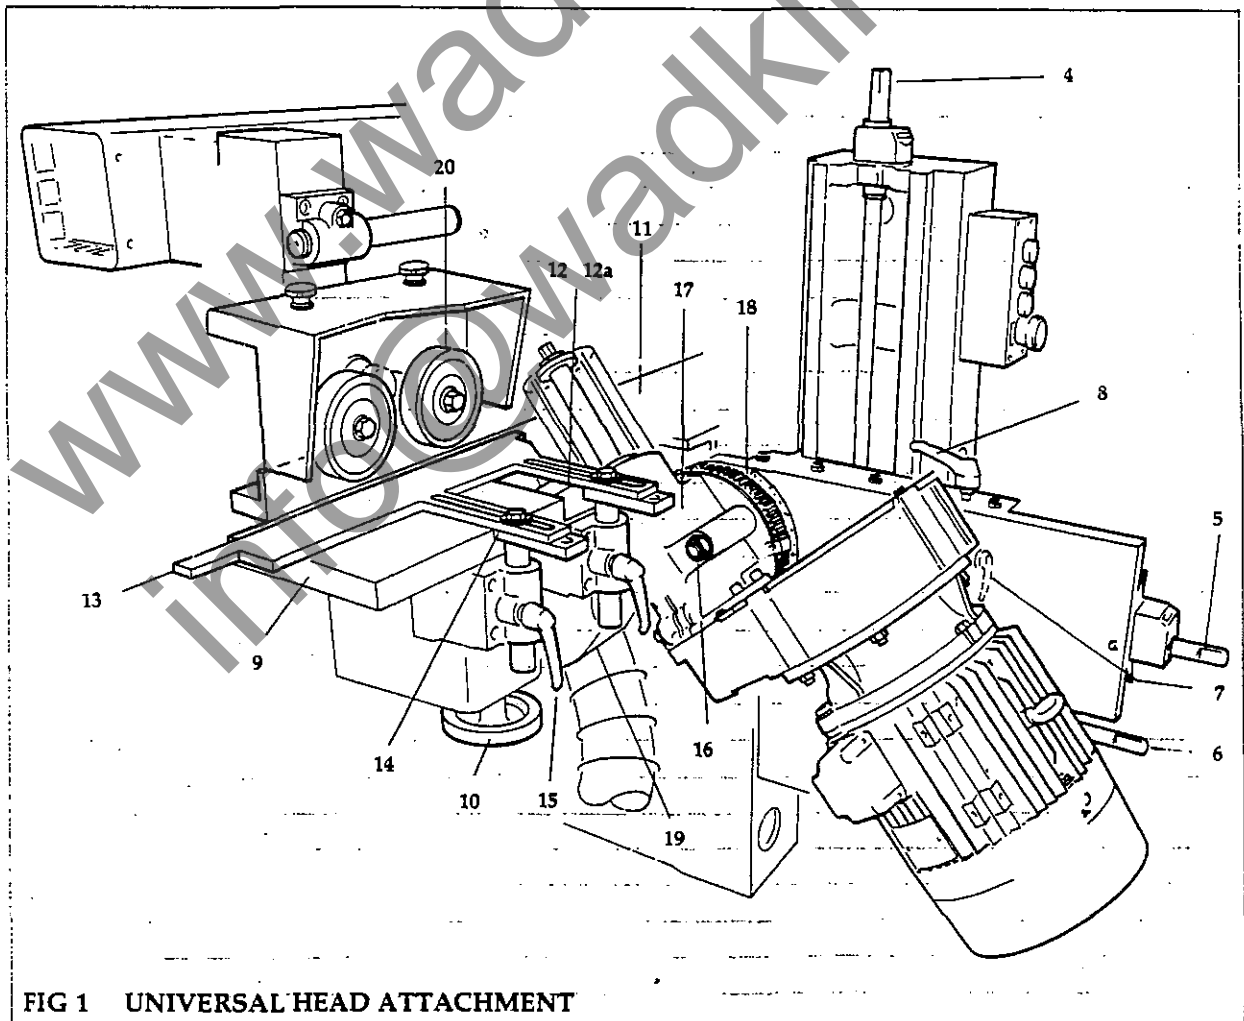

FIG 1 UNIVERSAL HEAD ATTACHMENT
- (1) Switch to 'Elgo' operation (Fig 1).
- (2) Enter the required position using the keypad.
- (3) Press 'Start' push button.
Universal Head Cutters (Fig 1)
NOTE: In the Bottom Head position always change the cutterblock from the rear of the machine. However, in the Vertical mode it is possible to change the cutterblock from the nearside, using a similar procedure. Fig 1 shows the head of the nearside vertical (angled or canted) mode.